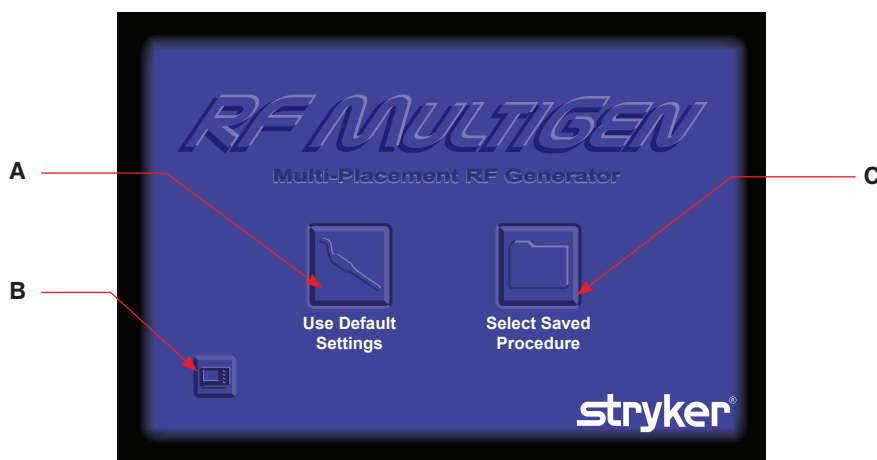

Figure 10 Home Screen
1. To start a procedure, touch the USE DEFAULT SETTINGS button to use system procedure values or the SELECT SAVED PROCEDURE button to use saved procedure values (see figure 10). If the USE DEFAULT SETTINGS button is selected, see *To Change System Settings: Procedure Default Settings* section if required. If the SELECT SAVED PROCEDURE button is selected, see *To Save or Access Saved Procedure Settings* section to create, edit, or select a folder/file for a procedure.